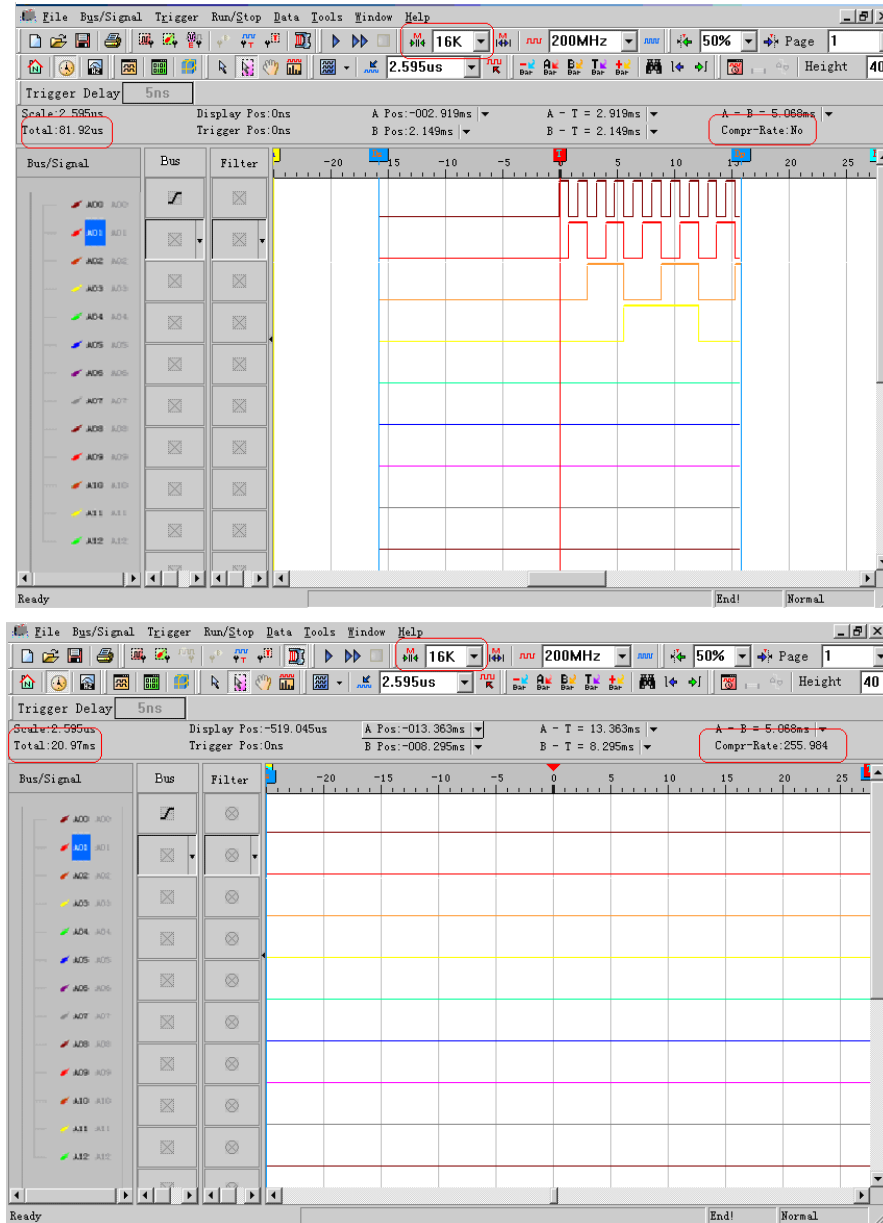

Fig 4-143 – Before and After Compression
- Step 4.** Click **Run**, and then activate the signal from the tested circuit to acquire the result on the waveform display area. Fig 4-143 shows the result before and after compression has been applied.